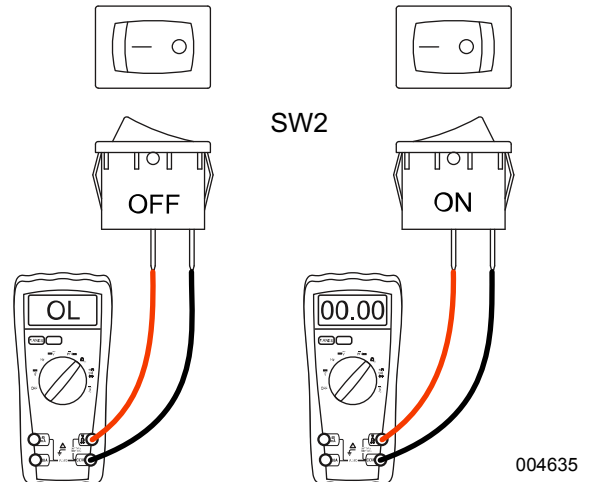

Figure 4-58. Check Idle Control Switch (SW2)
3. See Figure 4-58. Connect meter test leads across both terminals of SW2.